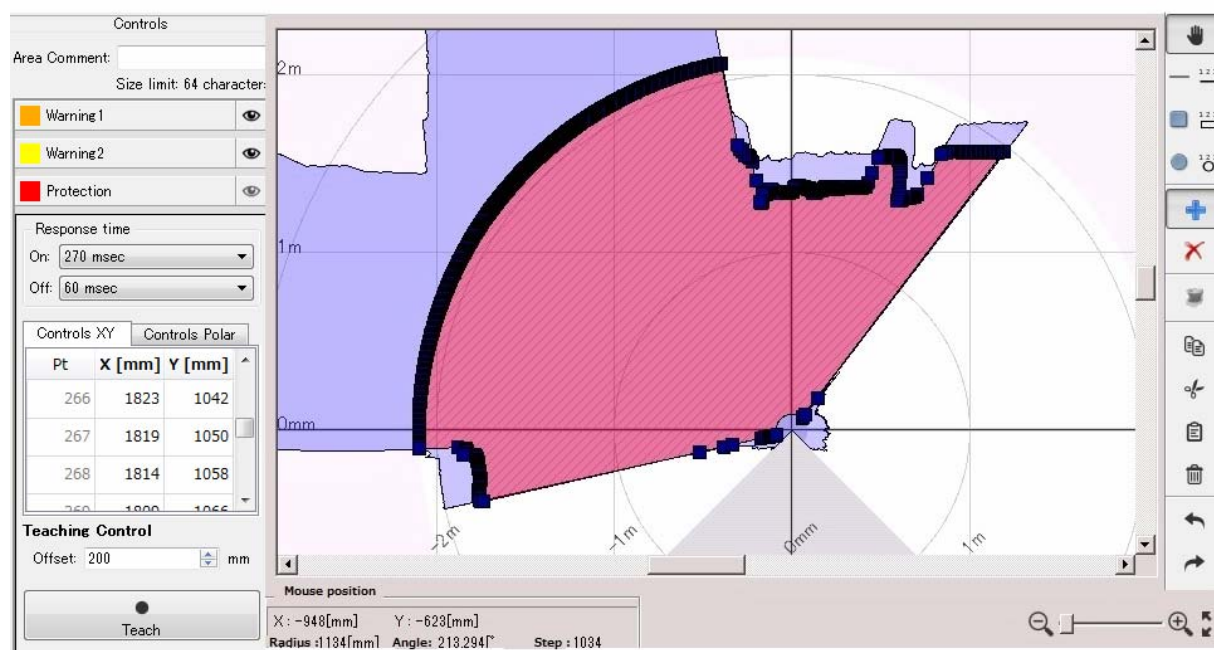

Figure 7-44 Area configured by teaching
- Obtaining the background data starts when the “Teach” button is clicked. Configured area will resemble the SE2L's background. (Figure 7-44). When configuring the protection zone, if the background is not within the maximum detection distance it is set to maximum detection distance of SE2L. In case of warning area, if there is no background within 20m from SE2L it will be set to 20m.